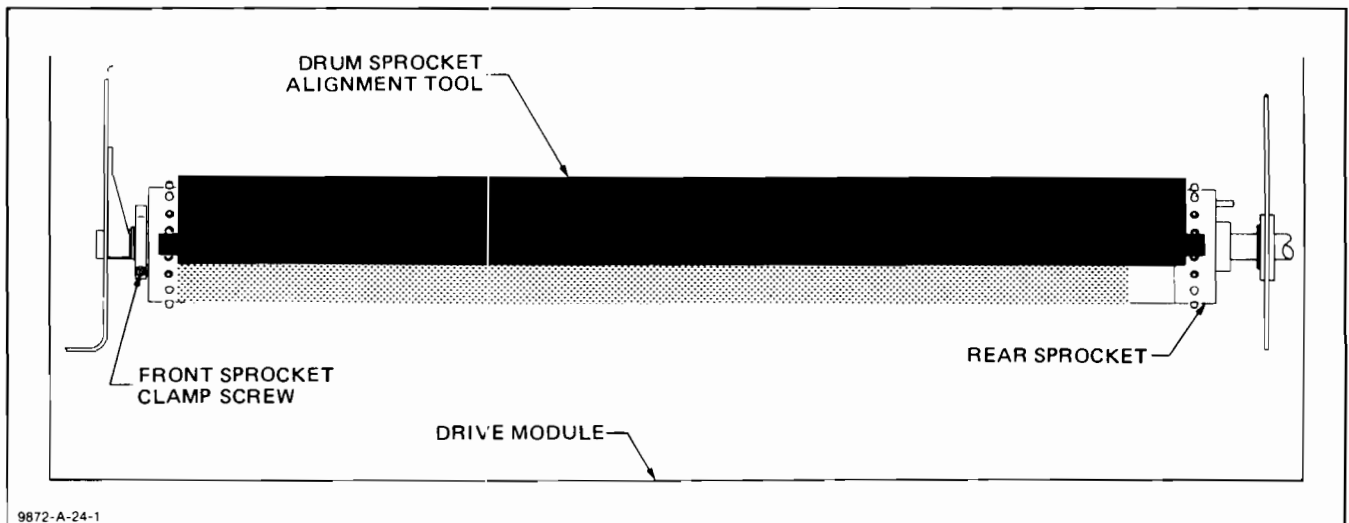

Figure A3-3. Sprocket Alignment
- d. Place the drum sprocket alignment tool on the drum, concave side down. See Figure A3-3. The two triangular tabs should extend into the space between the teeth on both sprockets.